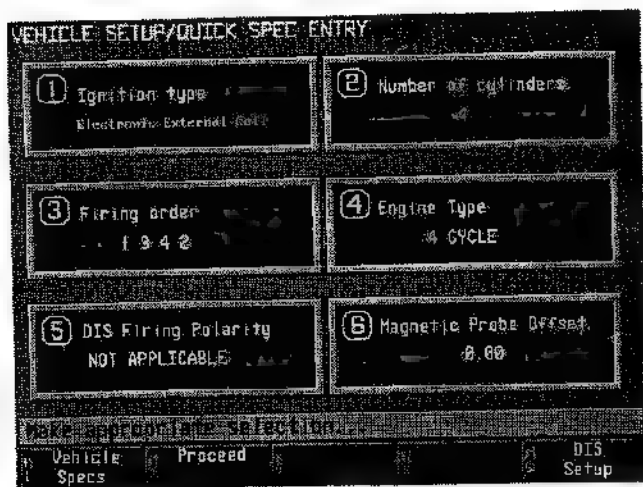

Figure 1-22
2. The "Vehicle Setup/Quick Spec Entry" screen appears, (see Figure 1-22).